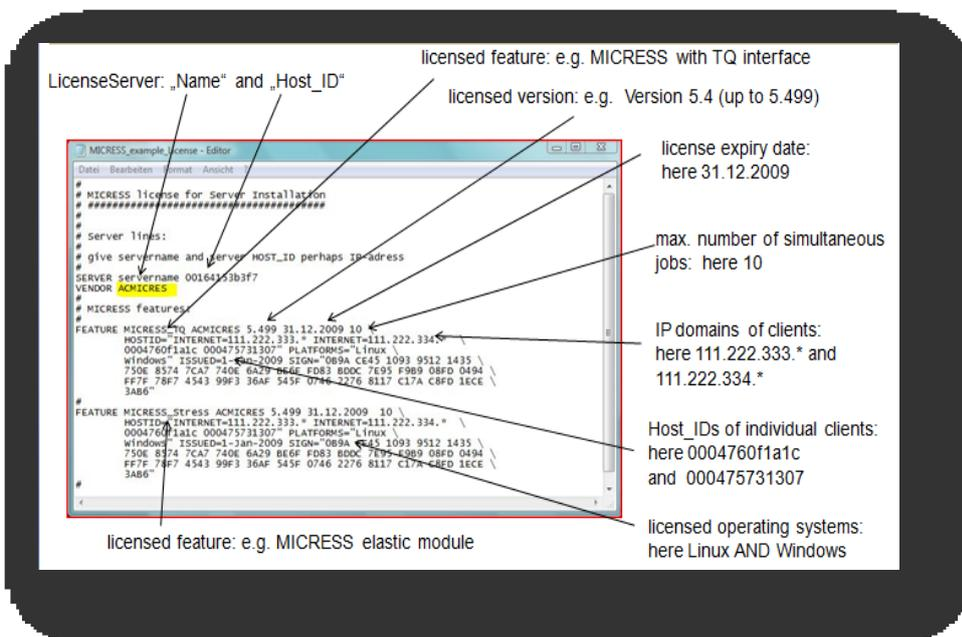

Figure 2.2.
Both types of license files will be provided by Access or by one of its authorized agents. Typical license files are shown in Figs. 2.2 and 2.3. :
**Figure 2.3.** Example of a license file with the same network configuration as Figure 2.2. except of another vendor: "thermo\_c" i.e. Thermo-Calc Software AB, Stockholm. The licensed feature is the TQ interface